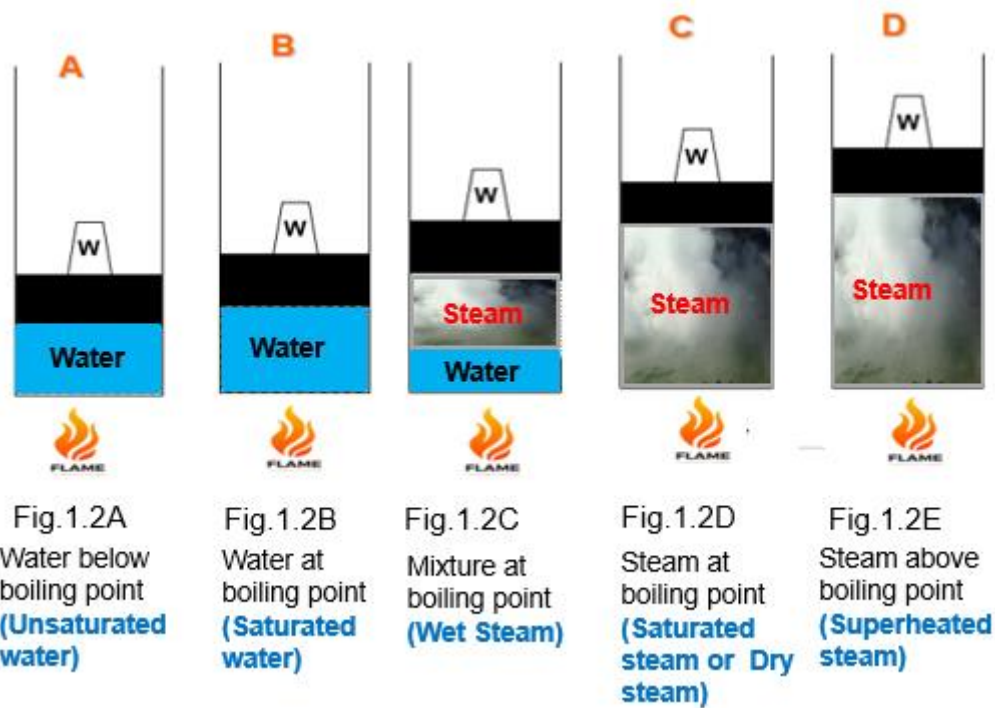

Fig. 1.2: Formation of Steam
The action of heat in the formation of steam from water is illustrated in the Fig.1.2 shown below. As the steam is continuously generated, its pressure gradually increases and is supplied from the boilers to the engines or turbines at constant pressure. To know the values of the various properties of steam at a particular pressure, a steam generation experiment is conducted by heating water from 0°C at a given constant pressure. Since the steam is generated at constant pressure, the amount of heat energy supplied to convert the water into steam will be equal to its enthalpy.
When this water is heated at constant pressure, its temperature rises till the boiling point is reached. When the boiling point of water is reached there will be a slight increase in the volume of water as shown in Fig. 1.2 (B). The temperature at which the water boils depends on the pressure acting on it. This temperature is called as **saturation temperature** and denoted as " T_s ".
Further addition of heat, initiates the evaporation of water while the temperature remains constant at the saturation temperature T_{sat} because at the saturation temperature water is saturated with heat and any further heat addition will only change the phase from the liquid to the gaseous phase. This evaporation continues at the same saturation temperature T_{sat} until the whole of the water is completely converted into dry steam as shown in Fig. 1.2(D). This constant pressure and constant temperature heat addition process is represented by the horizontal line BC on the temperature- enthalpy graph.
On heating the steam further at the same constant pressure, its temperature increases beyond the saturation temperature T_{sat} . The temperature of the steam above the saturation temperature at a given pressure is called *superheated temperature* T_{sup} . During this process of heating, the dry steam will be heated from its dry state, and this process of heating is called *superheating*. The steam when superheated is called *superheated steam*. This superheating is depicted in Fig. 1.2(E) and is represented by the inclined line CD on the temperature- enthalpy graph.
When the water is heated beyond the saturation state at constant pressure it starts evaporating. This evaporation process depicted in Fig. 1.2(C) is not instantaneous and during the process